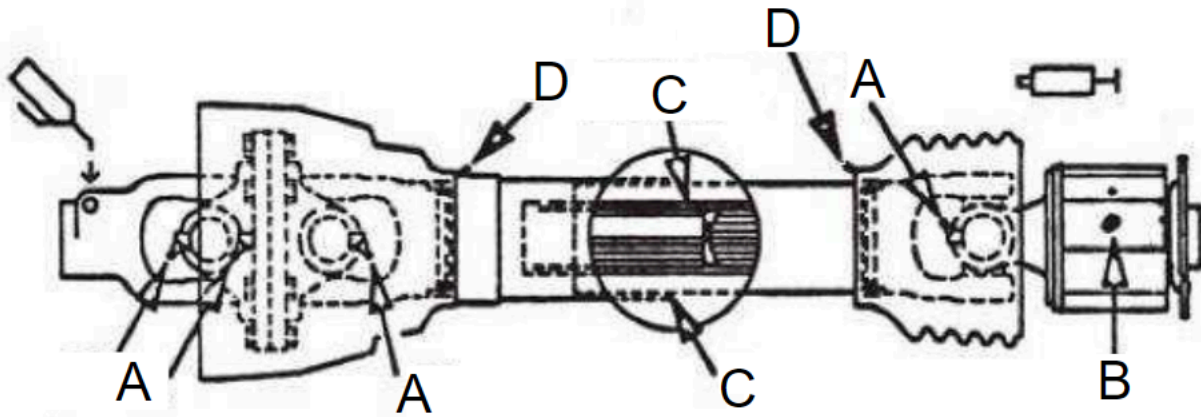

Figure 7-1: PTO shaft lubrication locations
5. Lubricate the PTO shaft at the specified locations and intervals as specified in **Figure 7-1** and **Table 7-2**.